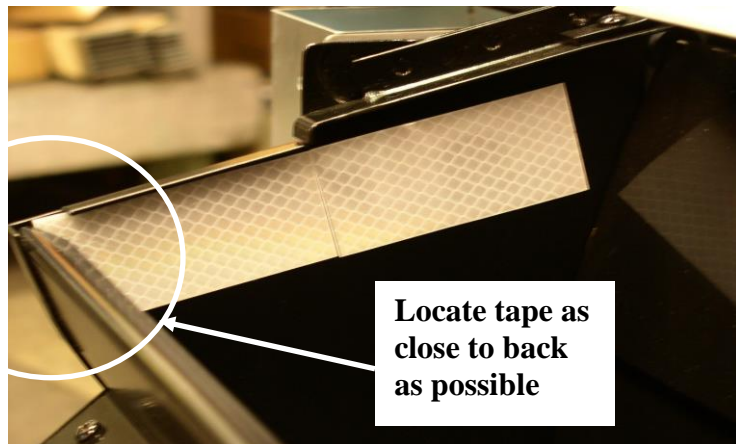

Figure 5 (Typical representation)
8) Install piece of reflective tape to opposite side of delivery bucket. **Note: When installing reflective tape, position tape as close as possible to rear part of delivery bucket. (Figure 5)**